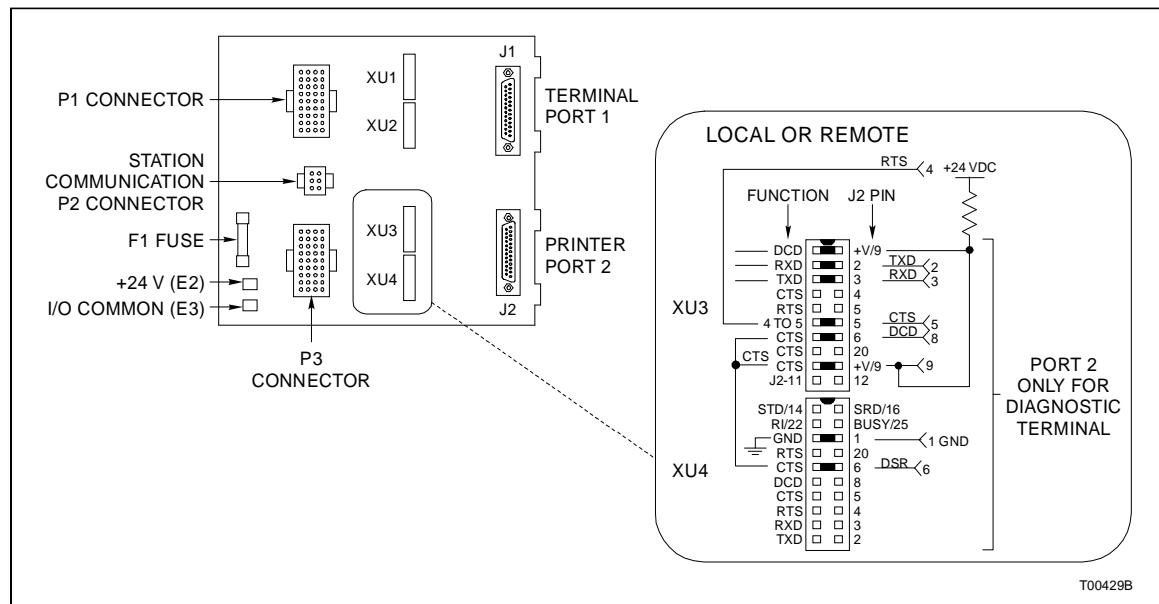

Figure 2-9. Dipshunt Configuration for Diagnostic Terminal (PPT Module)
3. To connect a diagnostic terminal to the INPPR01 module, use port one on the TMF termination unit and the dipshunt settings shown in Figure 2-9.